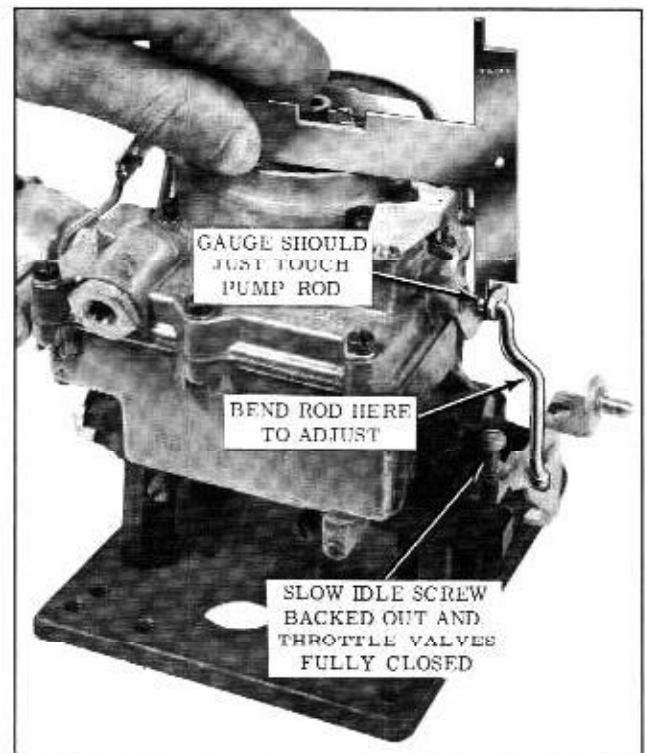

Fig. 8-115 Pump Rod Adjustment
1. Using Gauge Set 100-31 (1-7/16") check the distance from the top of the air cleaner mounting ring to the top of the pump rod. The leg of the gauge marked "Pump" should just touch the top of the pump rod. (Fig. 8-115)